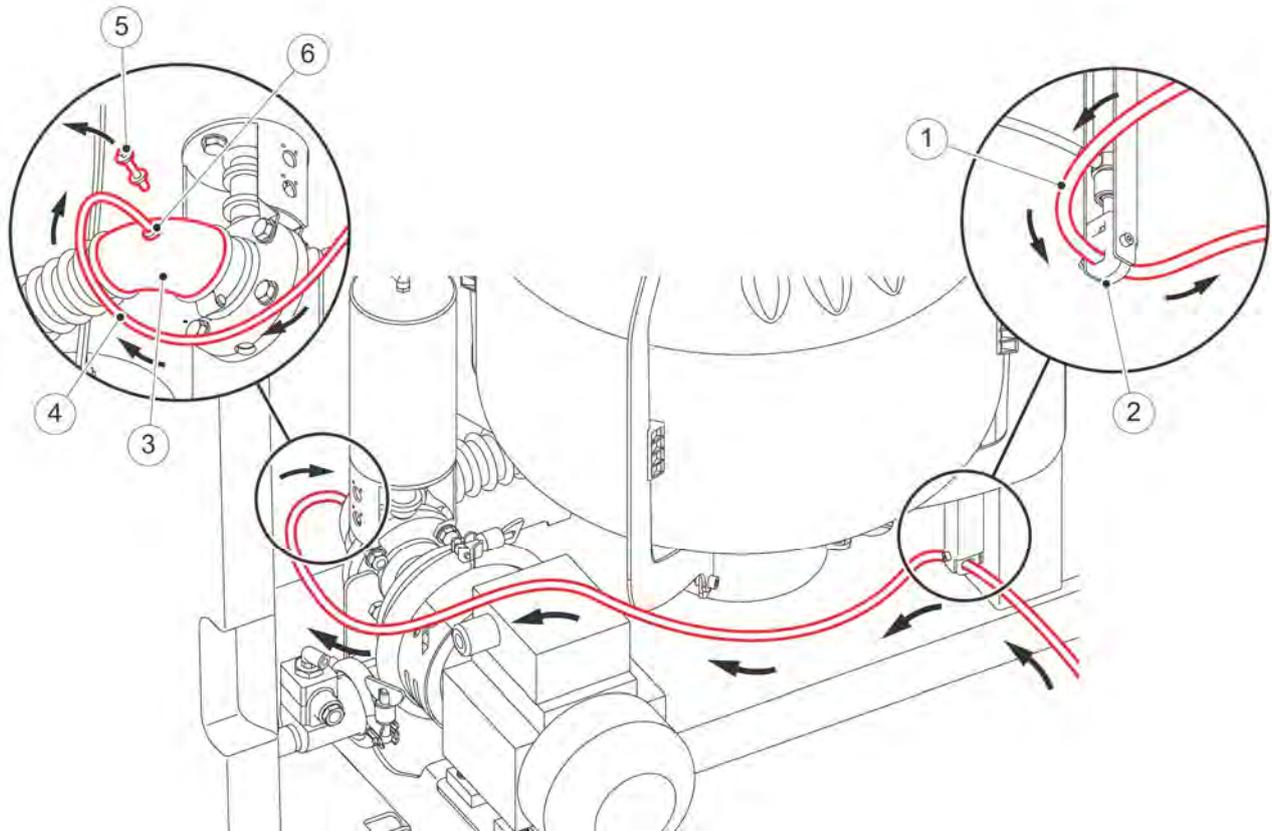

Figure 12. Connect the milk tube to an Astronaut A3 Next milking robot
1. Put the milk tube (1, fig. 12, page 5-8) through the hole (2).
2. Remove the stop (5).
3. Install the connector piece (6) in the milk tube (4).
4. Install the connector piece in the elbow (3).